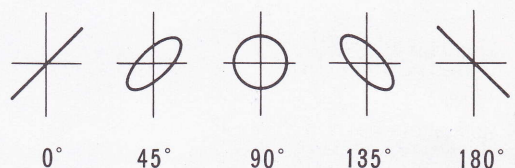

Fig. 5
5. Adjust VERT and HORIZ GAIN controls to obtain a pattern as shown in Fig. 5, 0°, (45 degree upward slanted line).
6. Push DISPLAY switch No. 2. Pattern will be a Lissajous pattern composed of signals 1 and 3 (1: VERT 3: HORIZ). If both signals have exactly the same frequency, patterns as in Fig. 5 can be obtained.